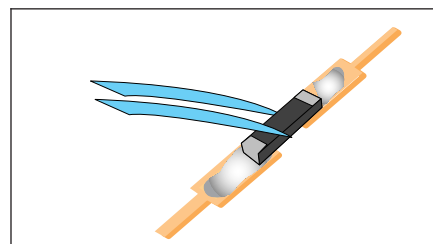

Figure 2 Position Component
5. Position component onto lands using tweezers. (See Figure 2.)